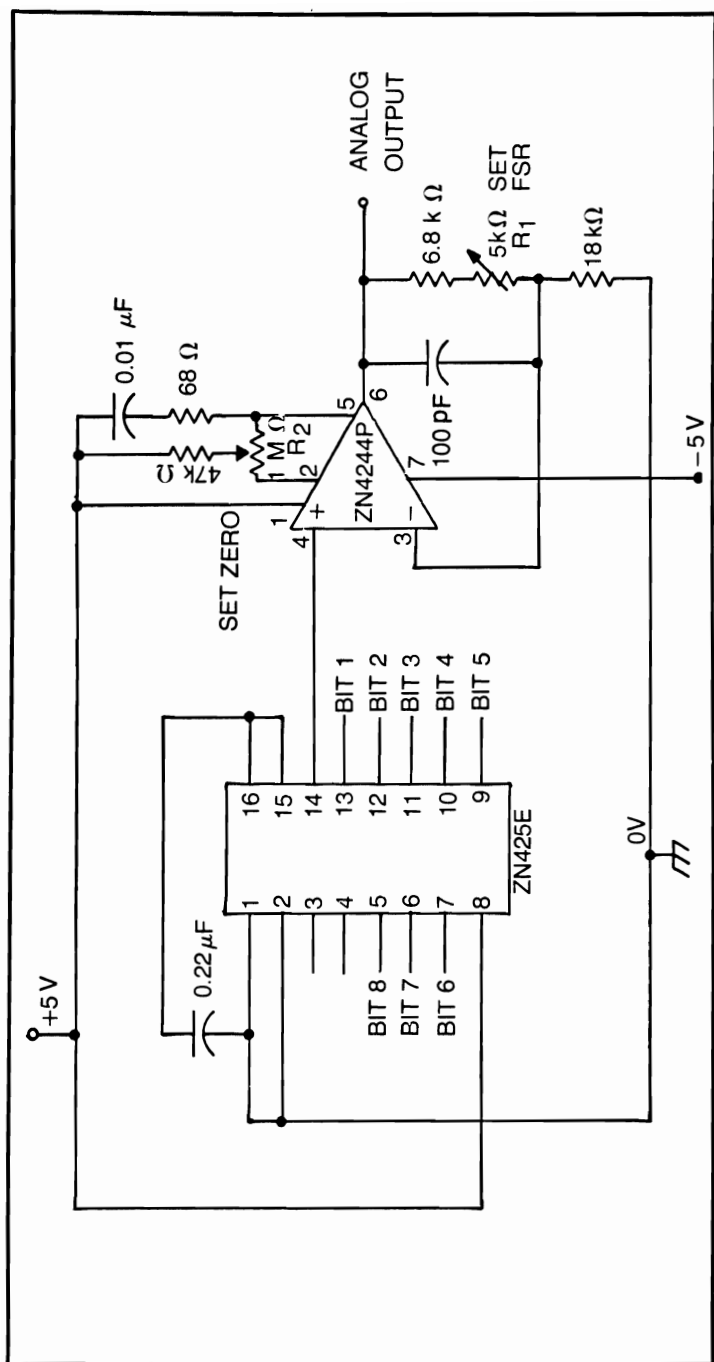

Fig. 13-2. Ferranti ZN425E in voltage-output DAC circuit.
Figure 13-2 shows a typical circuit using the ZN425E. The internal reference is used, and the output voltage is applied to the noninverting-follower operational-amplifier. Zero and full-scale-output adjustments are provided. The calibration is shown below:
2. Adjust potentiometer R2 (Fig. 13-2) until the output voltage is zero.